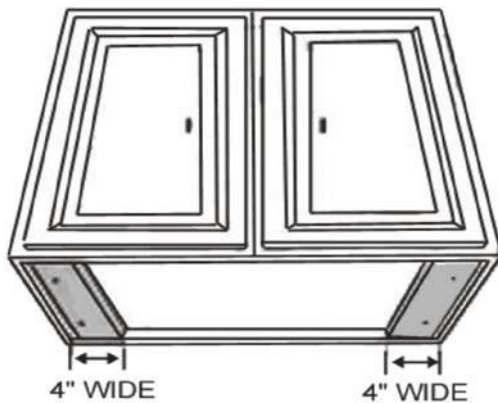

Figure 1
- For installing under the cabinet with recessed bottom, attach 4" wide wood filler strips (not provided) on each side. See Figure 1.
3. From the inside of the hood, place hood mounting screws in the exact center of each knockout holes and secure to the cabinet bottom. Tighten all screws until secure. Be careful when using electrical screwdriver in order not to damage the range hood. If venting is to be done vertically, connect and secure the 6" round metal duct (refer to figure 1).
In the case of vertical evacuation use a 6" round metal pipe (as in figure 1) to connect the exhaust on the hood to the ductwork. Use duct tape to make all joints secure and air tight.